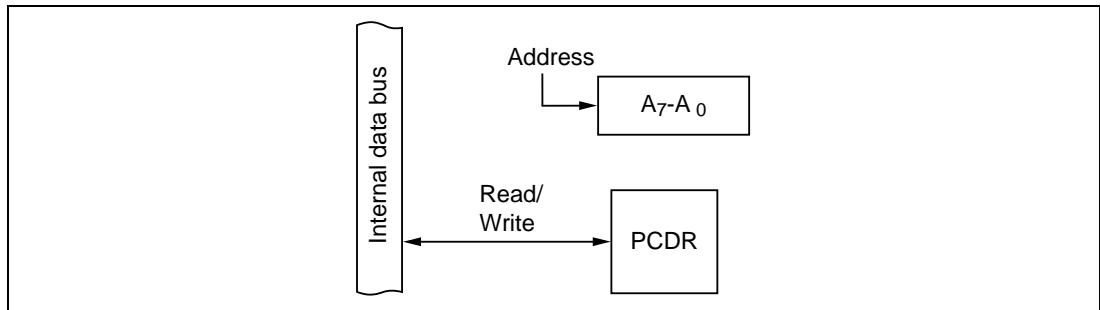

**Figure 10-89 Output Port (Mode 7)**
**(3) Output Port (Mode 7):** Figure 10-89 shows a block diagram illustrating the general-purpose output function. Table 10-66 indicates register read/write data. The value written in the port C data register (PCDR) is output at the pin. When read, PCDR returns the value written in PCDR.